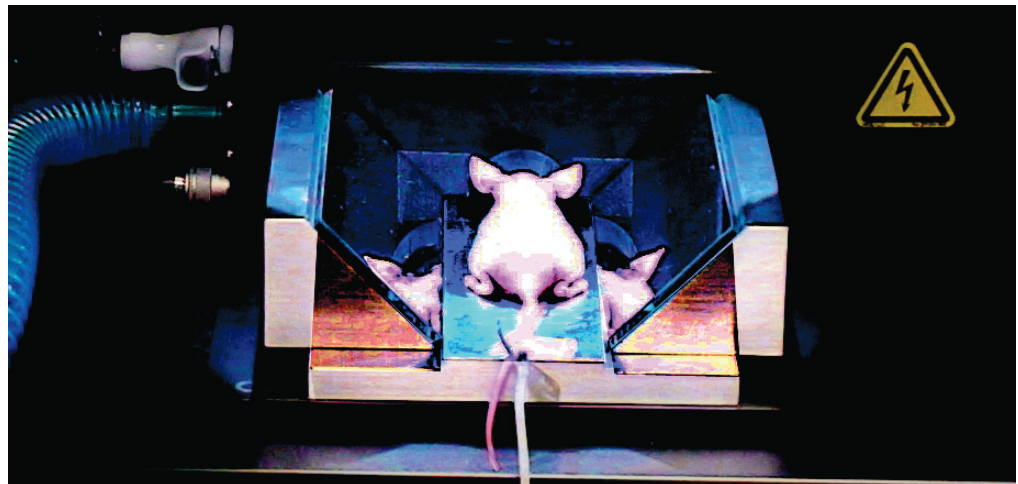

Figure 72. Mouse on Multiview Platform
4. Place the anesthetized mouse on the platform (see Figure 72). Be careful not to touch or smudge the mirrors on the platform while placing the mouse. Make sure the mouse's nose fits snug in the anesthesia nosecone.